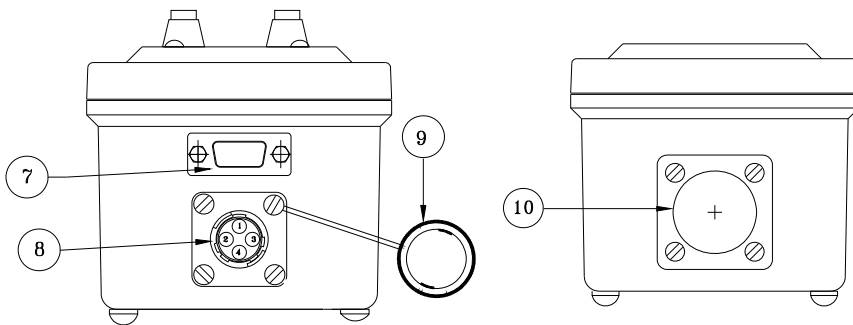

Figure 1
Display Unit (Figure 1)
The system was shipped with a fully charged internal lithium ion battery and should be ready for use. The unit will not turn on until the “Y” cable is attached to the unit. Refer to Figures 1 and 2 for connection information.
5.1 Outputs and Controls (See Figure 1)